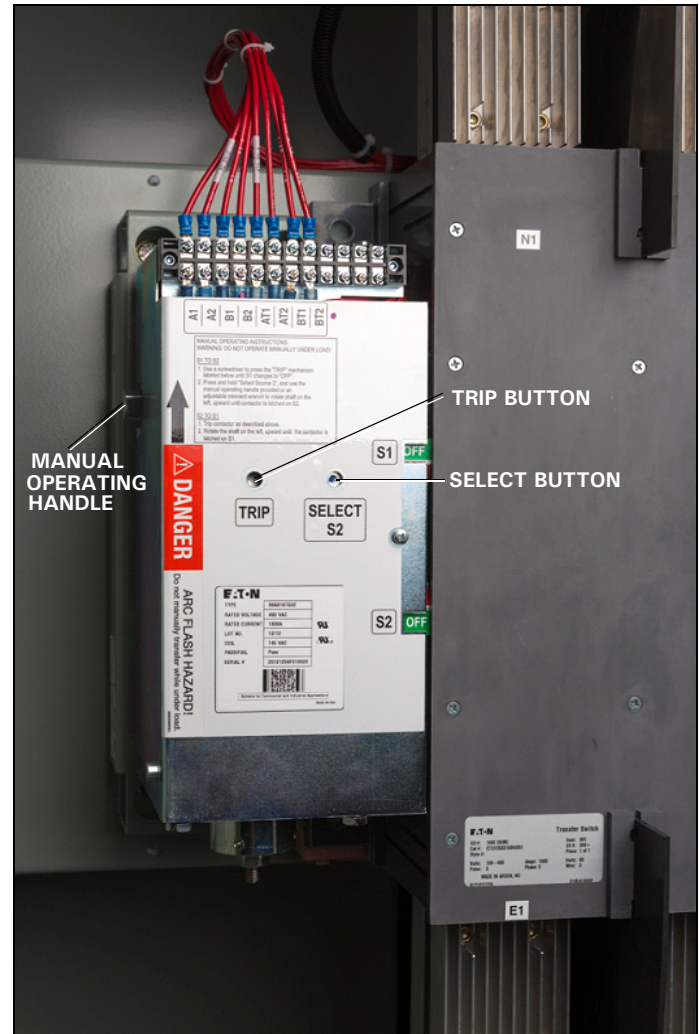

Figure 15. Troubleshooting Manual Operation of the Transfer Switch
- Step 3:** Attach the lever to the manual operating handle (see Figure 15) and rotate the lever up to go to Source 1.